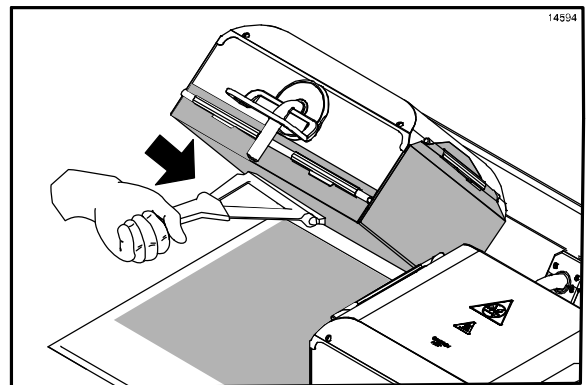

Figure 30
2. Squeegee the upper release sheet from top to bottom. (See Figure 30.)